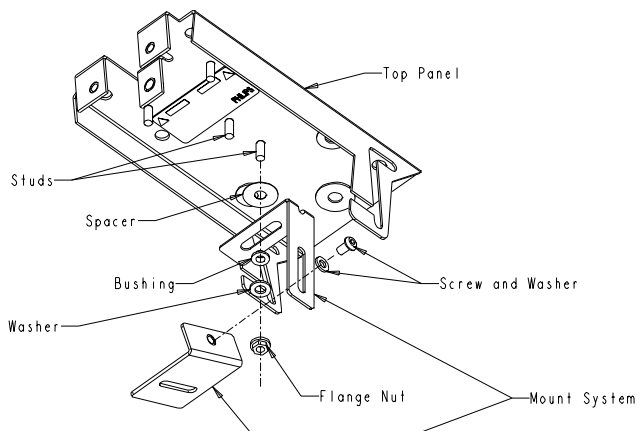

Figure 2: Removing the Mount System
5. Unscrew the flange nut and remove the camera mount system from the top panel. **See figure 2.** Do not lose the parts, they will be needed to mount the camera and reassemble the unit.